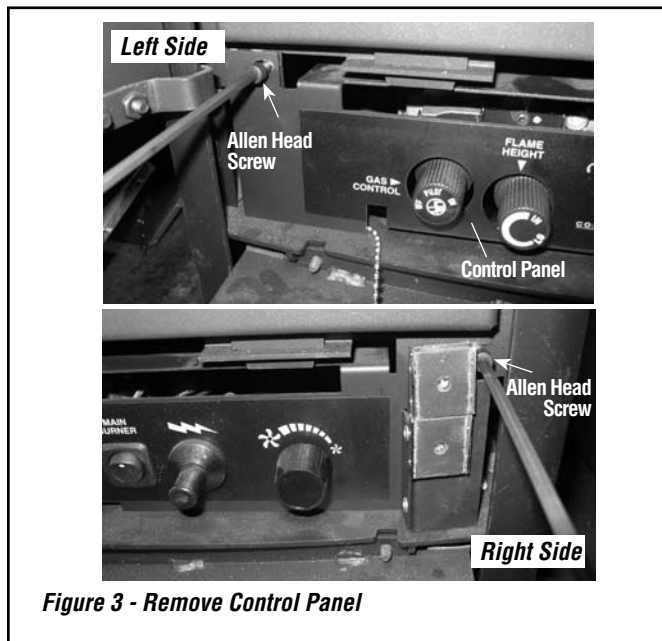
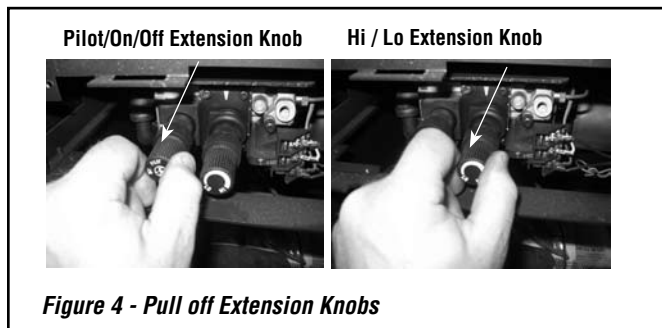

Figure 3 - Remove Control Panel
Figure 4 - Pull off Extension Knobs
Step 1. Using a 5/32" allen wrench, remove the control panel cover by removing the 10-24 screws on the left and right side of the control panel (indicated by arrows in *Figure 3*). Do not disconnect any wires during this step.
Step 2. Pull off the knob extensions on the valve (see *Figure 4*).
Step 4. Replace the knob extensions on the gas control valve (see *Figure 4*). Reinstall the control board panel using the two 10-24 screws removed during Step 1 (see *Figure 3*).